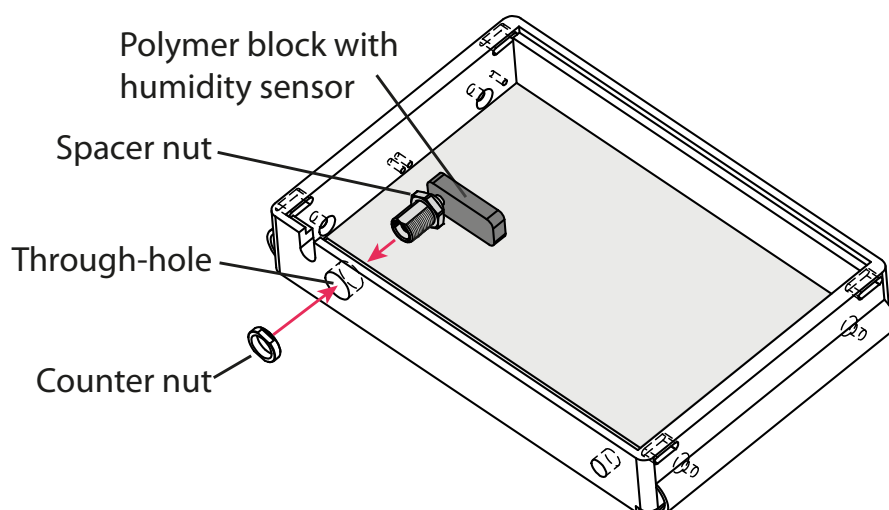

Figure 7 – Installation of the humidity sensor in the side wall of the Heated Lid.
2. Place the threaded part of the sensor through the opening in the Heated Lid's wall, so that the sensor is inside the chamber (Figure 7). The spacer nut fits into the cavity of the wall.